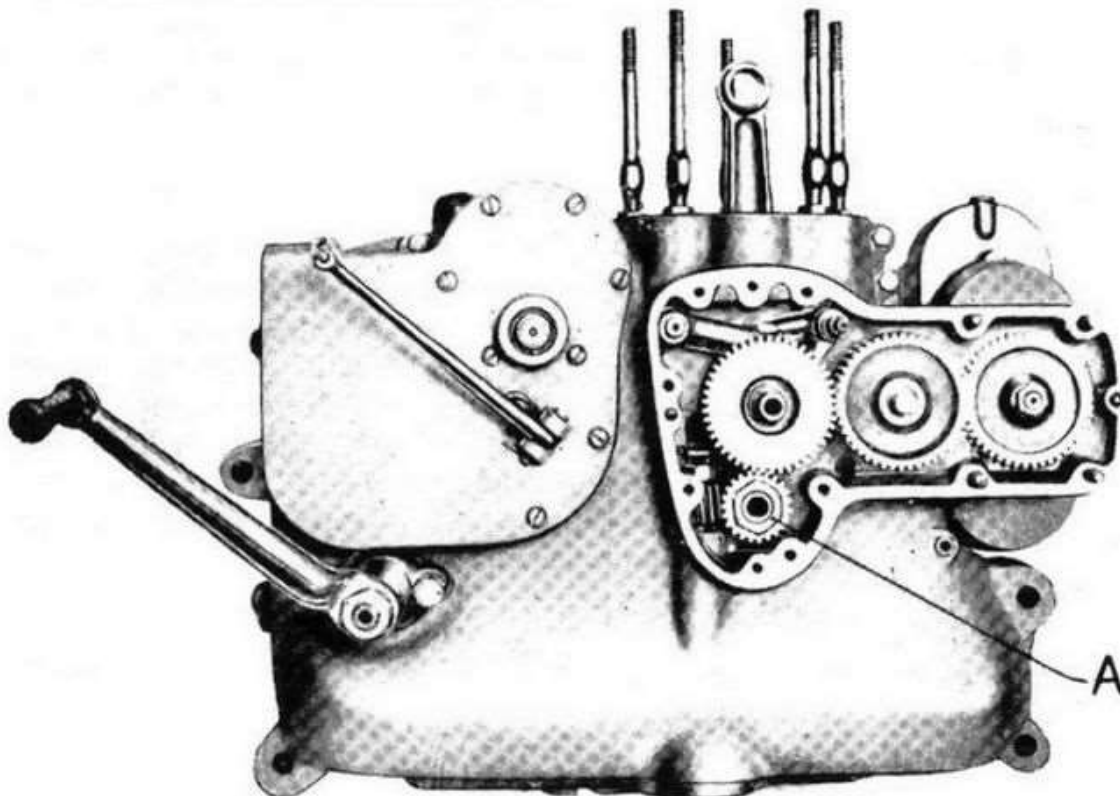

Fig. 9 - Engine block with uncovered distribution
a) Remove the spark plug with the appropriate key; b) remove the upper cover by unscrewing the fixing screws; c) remove the shafts of the rockers by screwing into the tapped hole one of the fixing screws of the lid by actuating like an extractor; d) remove the rockers arms, paying attention to the possible adjusting washers; e) remove the rocker arm shafts; f) loosen uniformly the five screws (fig.9) that hold the head and the cylinder to the crankcase; g) remove the head, the oil delivery pipe and, using a wooden mallet, remove the cylinder from the crankcase.
a) Remove the gear shift lever, the valve lever with the relative spring. b) remove the woodruff key on the shaft of the valve lift lever; c) unscrew the four blind nuts fixing the mag and the ones which hold the cover. d) remove the last one taking support on the place planned for; e) remove the cam gear, the control levers and the relative shafts, as well as the intermediate gear; f) with the appropriate tool n. 6942 unscrew the lock nut of the mag gear assembly and with a wooden mallet on the shaft, take off the gear and the mag-dynamo; g) unscrew the fastening nut A (see Fig. 9/10) of the timing gear with the key and the lock tool No. 4710 and with the extractor No. 5263, take the gear from the crankshaft .
a) Remove the selector cover by unscrewing the fixing screws; b) remove the safety washer of the chain sprocket by unscrewing the fixing screw, then the sprocket itself unscrewing the locking nut with the tool N. 5920 (see figures 9/10); c) remove the gearbox cover (right side) by unscrewing screws and fixing nuts. For this operation you can use, as an extractor, two screws of the cover itself screwed into two tapped holes (see Fig. 11); d) remove the gearbox layshaft, and the fork, withdrawing the shaft, and the gearshift gears except the 1st gear and the sliding 2nd.